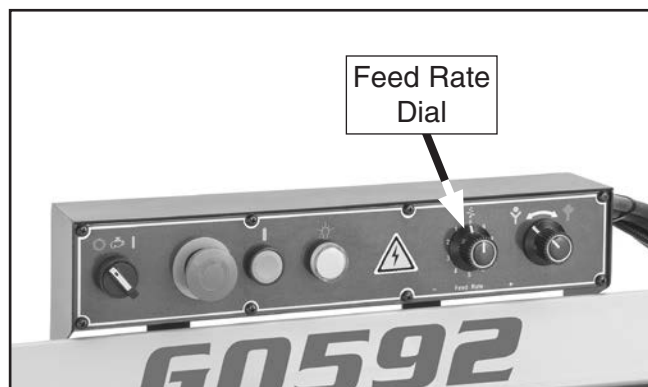

Figure 43. Location of feed rate dial.
2. Adjust feed rate dial shown in **Figure 43** to desired feed rate from 0 (slowest) to 9 (fastest).